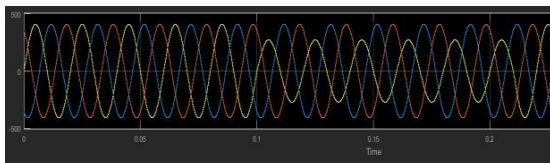
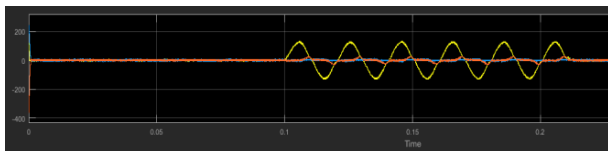
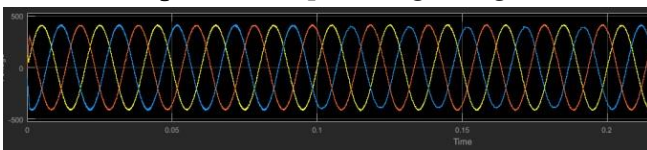

Figure 3. Voltage sag
Figure 4. Compensating voltage
Figure 5. Load voltage
1) Compensation of voltage sag: The voltage sag is created for a time duration of 0.1 to 0.2s as shown in Figure 3. DVR will inject the required voltage in this duration. The compensating voltage is shown in Figure 4. After the operation of DVR the load voltage is shown in Figure 5